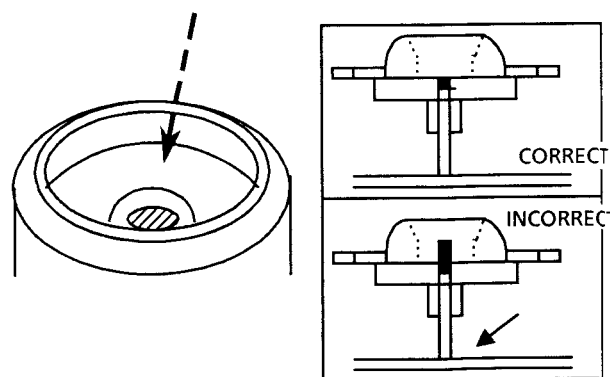

Fig 16
4. After inserting the turntable, bond the motor shaft and turntable together (at the section marked by an arrow in fig 16 on the left below).
5. Use "LOKTTITE" #460 bonding agent, and apply as little as possible. Take care not to allow any excess bonding agent to get onto the turntable. Be extremely careful not to allow bonding agent to adhere to the motor bearings (the section marked by an allow in fig 16 on the right).